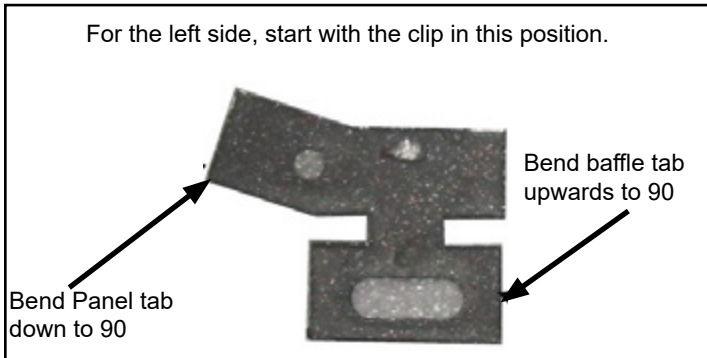

Figure 17.1.04:
**Step 2:** Starting with the LEFT or RIGHT SIDE PANEL, place the panel in the appropriate side. Using the brick clip, secure the panel. The clips are shipped flat and will need to be bent as shown in **Figure 17.1.04**.